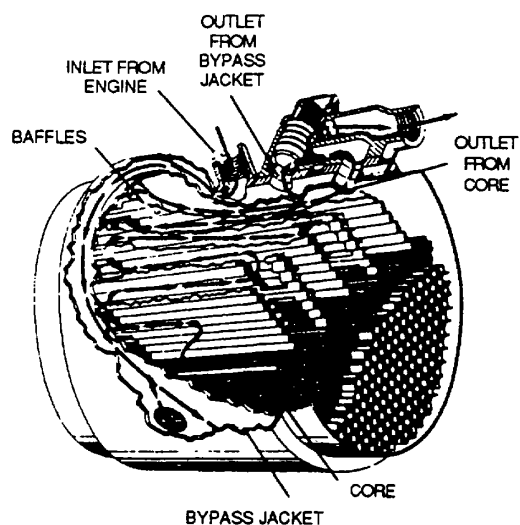

Figure 3-10. Reciprocating Engine Oil Cooler
(1) *Reciprocating engine oil coolers.* This oil cooler, as shown in figure 3-10, is either cylindrical or elliptical in shape. It usually consists of a core enclosed in a double-walled shell. The core is built of copper or aluminum tubes. Cooling air passes through the tubes while the oil flows around the outside of the tubes. This cools the oil for return to the engine. A bypass route is followed by the oil when the core is blocked or oil is cold.